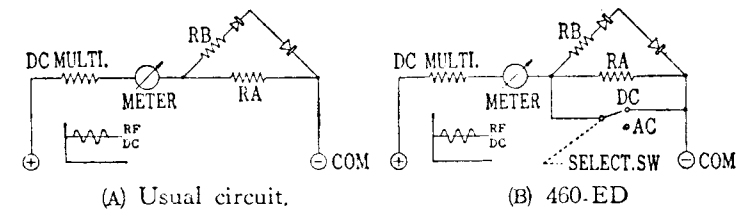

Fig. 4
3.1.2 Disturbance of Non-linear Element. Fig. 4(A) on next page is the circuit of a tester for DC measurement where a double-element rectifier is used, and the circuit resistance R_A is common with AC voltage measurement. This circuit will produce practically no error of indication so far as usual audio circuit is concerned, but for a circuit where HF current above 100kHz is present mixed, much of the current flows into the tester through the floating capacity of the switch, and the impedance on both sides of R_A is reversed owing to the asymmetrical property of a diode. In consequence, the mean value current which should not be read on the meter remains indicated causing a big error because of the DC voltage which